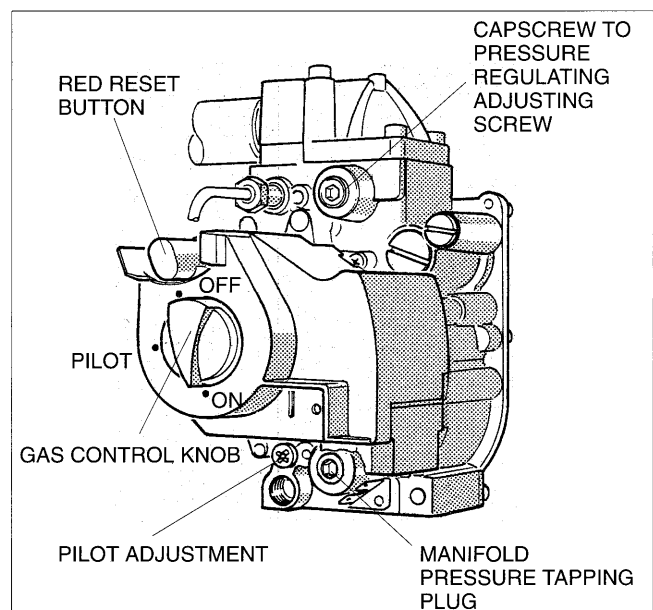
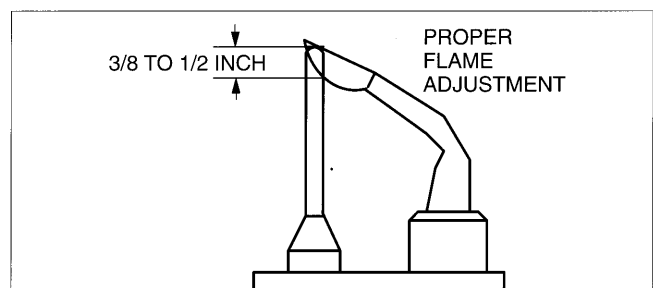

Fig.9
Fig.10
42. Observe the pilot flame through hole in the burner assembly plate. The flame should envelop the thermocouple 3/8 – 1/2 inch, fig. 10. If the pilot flame is satisfactory then go to step 43. If the pilot flame is too small or too large, adjust the pilot using the pilot adjustment screw., fig. 9. Turn the inner adjustment screw clockwise  to decrease, or counterclockwise  to increase the pilot flame. After adjustment, replace the cover screw and tighten firmly.
49. The manifold pressure must be adjusted to the values shown in the table 4. To adjust the manifold pressure, remove the capscrew from the gas control, fig. 9. Turn the pressure regulating adjusting screw clockwise ↻ to increase, or counterclockwise ↺ to decrease the manifold pressure. This adjustment must be made while the boiler is in operation.
50. After adjustment, install the capscrew on the gas control, fig. 9.